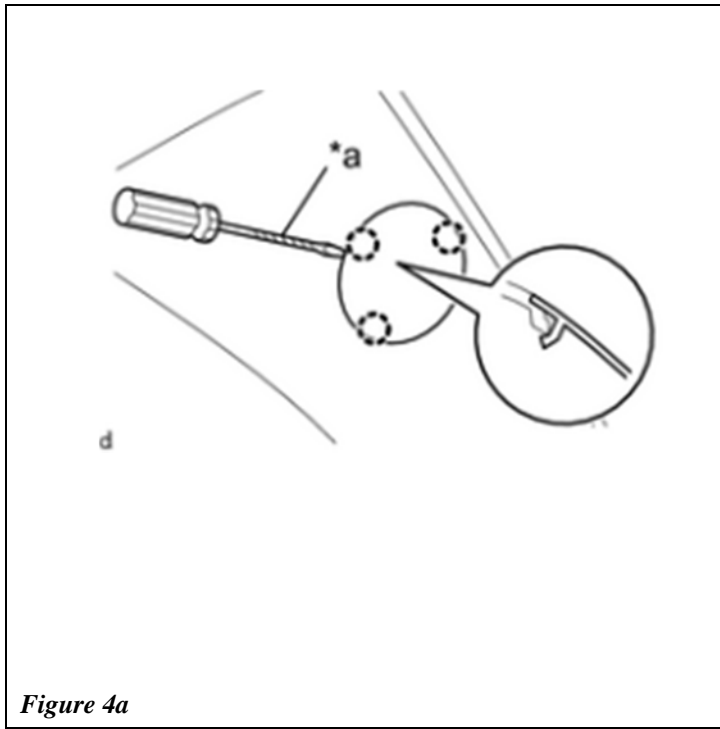

Figure 4a
- Using a screwdriver with its tip wrapped in protective tape, disengage the 3 claws to open the cover. Remove the bolt. See figure 4a and 4b.